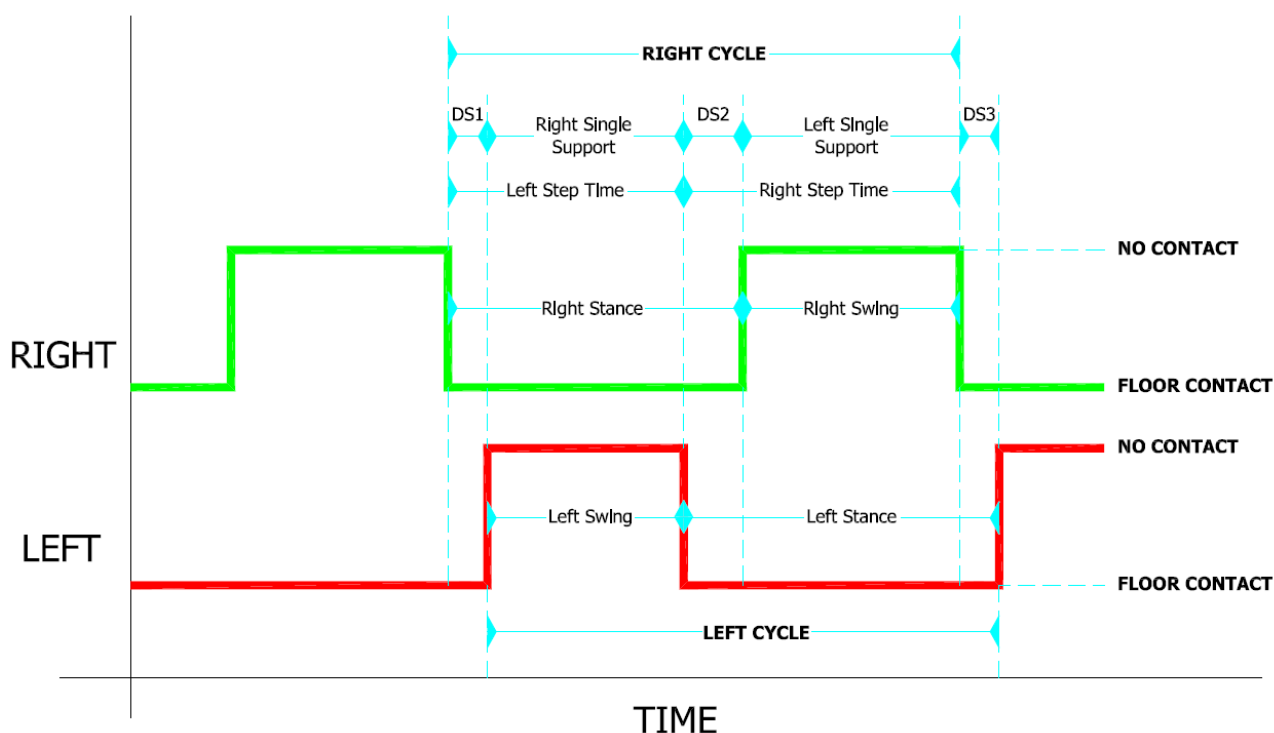

Figure 87 - Gait analysis terminology
Each gait cycle consists of two phases, where both feet are in contact with the ground, called **Double Support**: the first Double Support (DS1 in Figure 87 - **Gait analysis terminology** referred to the right foot) is also called '**Load Response**', whereas the second (DS2) is called '**Pre Swing**'). When only one foot is in contact with the ground, this is called **Single Support**.
- **Total Double Sup [s | %]:** This is the sum of two partial double supports defined DS1 and DS2 in Figure 87 - Gait analysis terminology